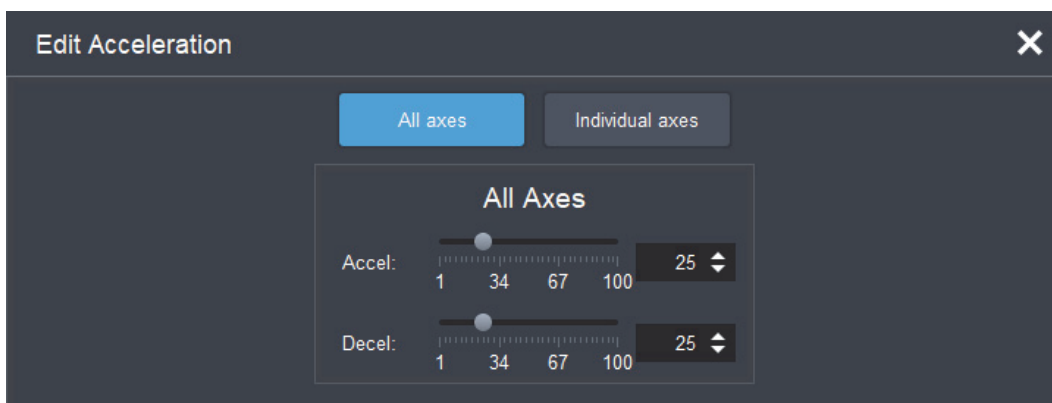

Figure 29 - Edit Acceleration dialog box (all axes)
- d. Tap the **All Axes** button, and then specify the default acceleration rate (**Accel**) and the default deceleration rate (**Decel**) for all axes (pan, tilt, zoom, and focus). See Figure 29.